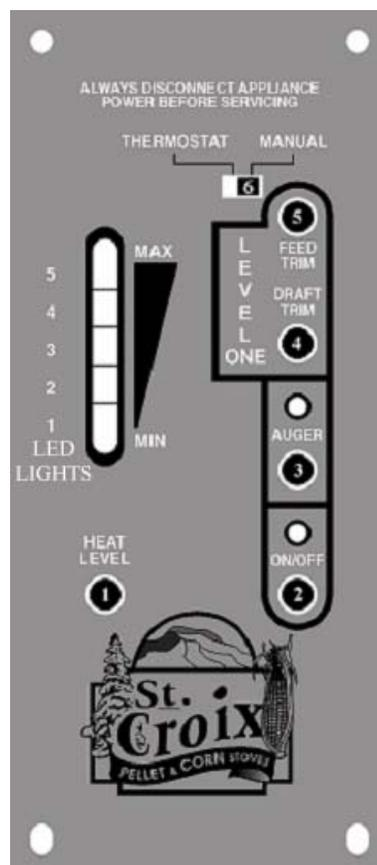

Figure 3
A closer look at the Control Board to the right in figure 3 will explain how the board works. There are five buttons labeled 1 through 5, a slide switch labeled 6 and a LED Light bar with 5 Heat Settings. *The LED Light bar is also used during the Diagnostic process, see page 9 for more details.*
The buttons on the board function as follows: (Refer to Figure 3. The touch pad buttons and Slide Switch are labeled with the white numbers 1 through 6)
4. Close the door and push the On/Off button on the control board. (*Button #2, see figure 3*)
### Shutting The Stove Off (Refer to Figure 3)
The #2 LED and the #3 LED lights on the LED Light bar as show in Figure 3 will flash to give a diagnostic code to help in diagnosing problems that may occur.
1. The **Proof of Fire** switch. This switch will sense the temperature of the Exhaust rising during start up. If the Exhaust temperature does not reach 110 degrees F, or if during use the temperature drops below 110 degrees F, the Stove will go into “**Internal Alarm**” and the Auger will quit feeding fuel. Once the stove completes the safety shutdown, the #3 LED will start blinking. (See Figure 3 on Page 7 and point 5 on page 22)
2. The **High Limit** switch. This sensor will sense if the unit reaches temperatures that are too high for normal operation. If this happens the Auger will quit feeding and the #2 and #3 LED lights will flash simultaneously. (See Figure 3 on Page 7 and point 6 on page 22)
3. The **Vacuum** Switch - For the stove to operate, the Firebox needs to be sealed. During the first 30 seconds after the stove has been turned on the Control Board will check if the switch senses negative pressure (Vacuum) in the Firebox of the stove. If there is no negative pressure, the stove will shut down and the #2 LED will start blinking. (See Figure 3 on Page 7 and point 4 on page 21).